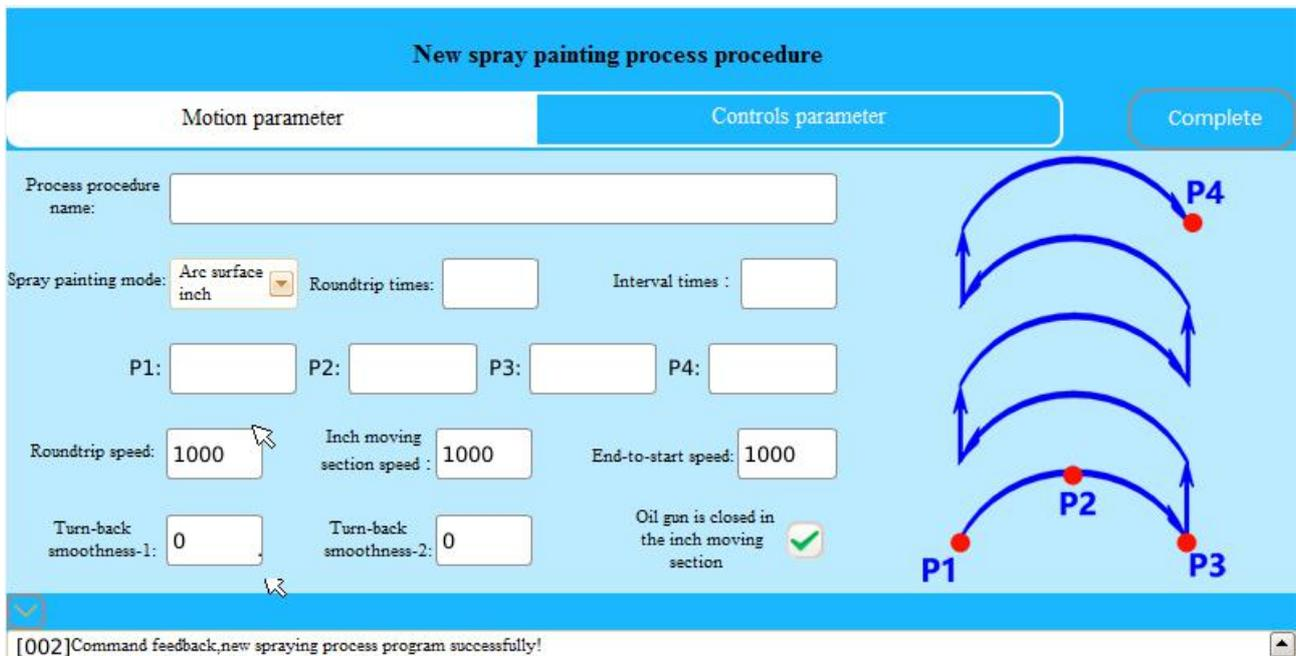

Figure 4.21 “Common arc surface inch spray painting process” Creation Interface
(6) Motion parameter of the common arc surface inch spray painting mode: as shown in Fig. 4.21, the inch spray painting mode of the common arc surface is basically consistent with the common arc surface spray painting mode, and only one inch of moving section is used to close the oil gun. After selecting, the oil gun is closed at the inching position, and the oil gun is opened again after the inching position.